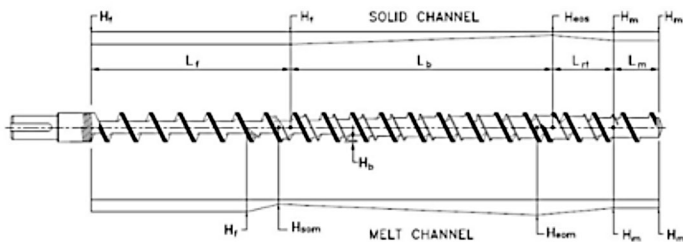

Figure 7: Barrier screw
The General Purpose (GP) screw design will process most resins but frequently not at the melt quality or efficiency required to compete in today's blow molding industry. More modern screw designs utilize a barrier flight as shown in Figure 7.